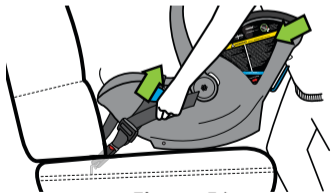

Figure 56
- Use your body to press the Carrier into the vehicle seat back while pulling free end of UAS Belt to tighten, as shown in **Figure 56**.